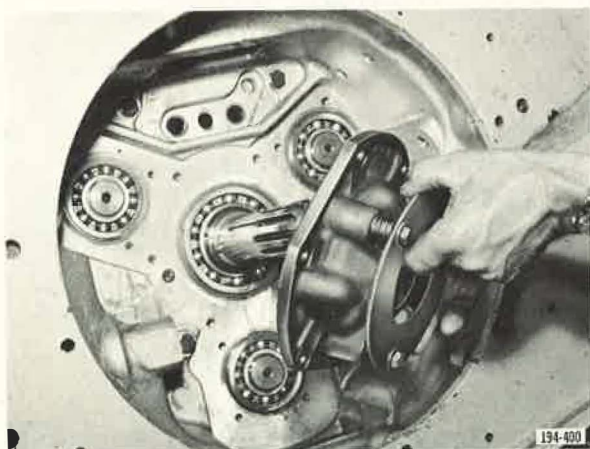

Figure 13. Removing Main Drive Pinion Bearing Cover Assembly
6. Place transmission front case in a horizontal position and remove countershaft front bearing covers. Remove main drive pinion bearing cover assembly. See Figure 13.